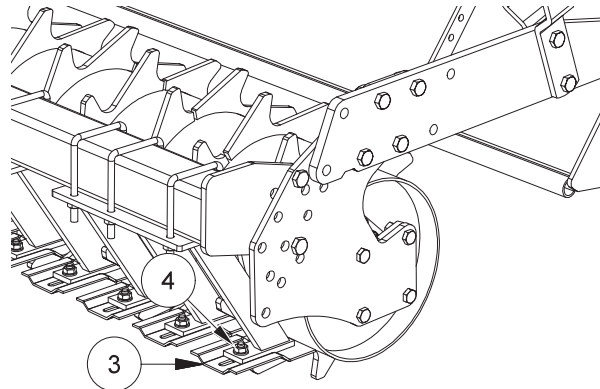

FIG. 27
- Loosen nut (4, Fig. 27).
- Bring the scraper(3) close to the roller.
- Tighten nut (4).